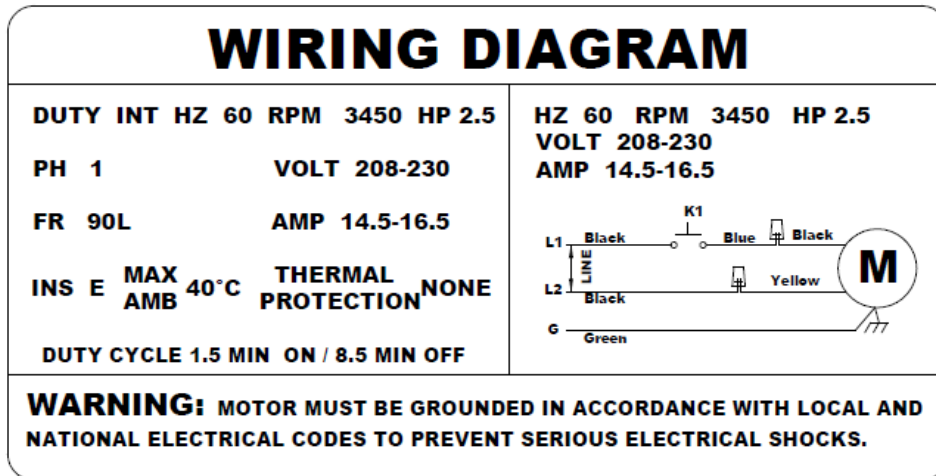

Fig. 19
1. Have a certified electrician make the electrical connection to the power unit. Use separate circuit for each power unit, as shown below in (Fig. 19).